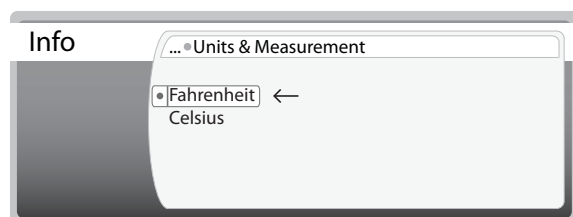

Figure 4.7: Changing Temperature Units
6. Turn the inner CookWheel knob to scroll to the desired temperature measurement (Figure 4.7). The arrow indicates which setting is selected.